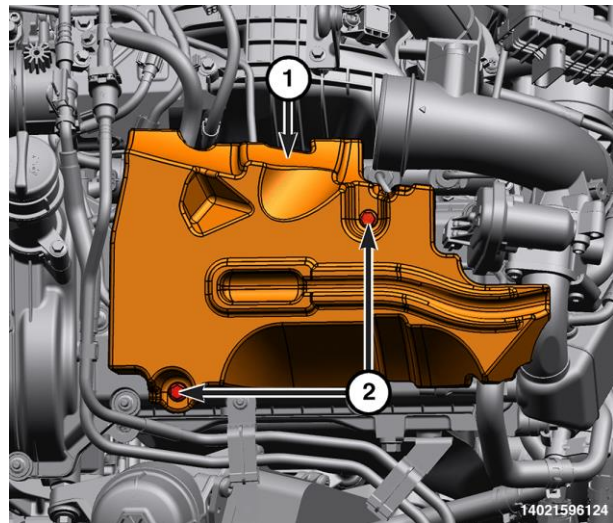

Figure 25 – Left Fuel Rail Cover
9. Remove the bolts (2) and the left fuel rail cover (1) (Figure 25).